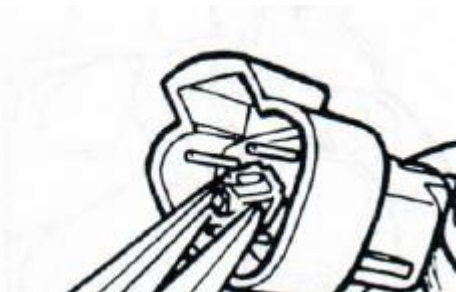

Figure 160
24. To remove the contacts on the smaller DT series connector, remove the wedge from the center of the connector using a needle nose pliers. Figure 160